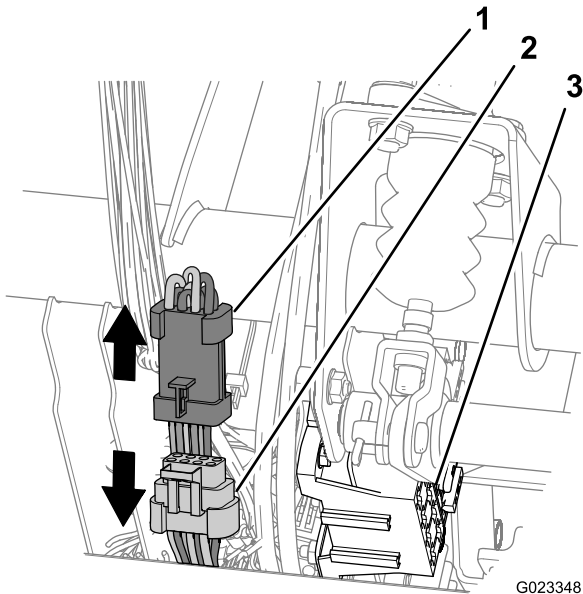

Figure 21
1. At the front of the machine and adjacent to the fuse block, locate the 8-pin and 8-socket connectors for the front and rear wiring harnesses for the machine (Figure 21).
2. Disconnect the 8-pin and 8-socket connectors for the front and rear wiring harnesses (Figure 21).